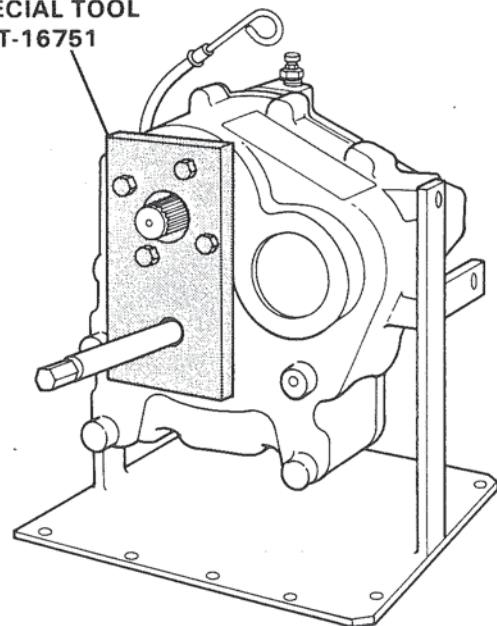

Figure 14. Special Tool No. T 16751 in Place.
2. **Output Shaft.** Remove the four (4) hex head cap screws which secure the bearing retainer onto the main housing over the input (forward) clutch shaft. Figure 14. Use longer screws (3/8-16 x 1-7/8) and attach Special Tool No. T 16751 output shaft remover onto the main housing on top of the bearing retainer.